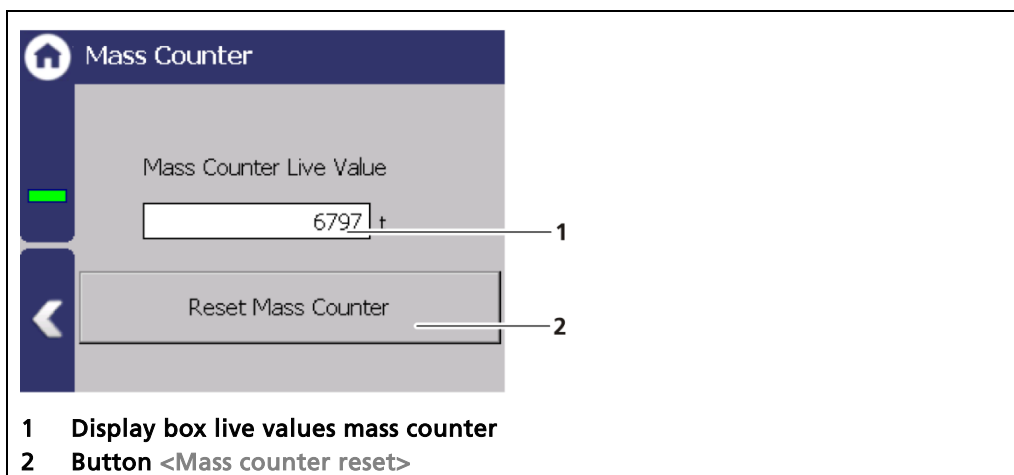

Fig. 147 Submenu "Mass counter"
In the submenu mass counter of the individual measuring set, the live value of the mass counter is displayed (Fig. 147, item 1). With the button <Reset Mass counter> (Fig. 147, item 2) the counter can be reset to 0.